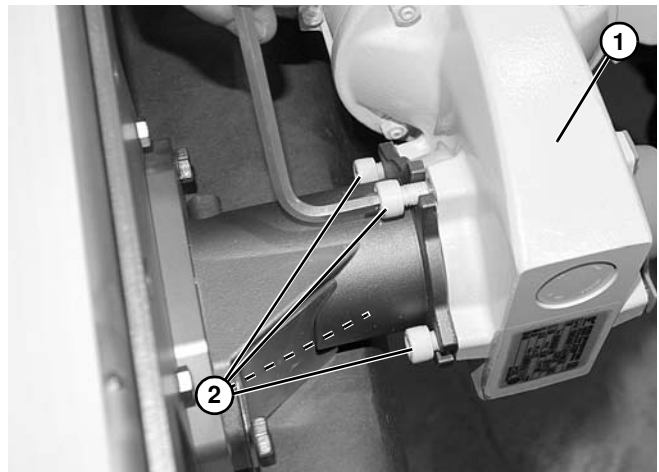

Figure 23
6. Secure gearmotor (Figure 23, item 1) with four screws (Figure 23, item 2).